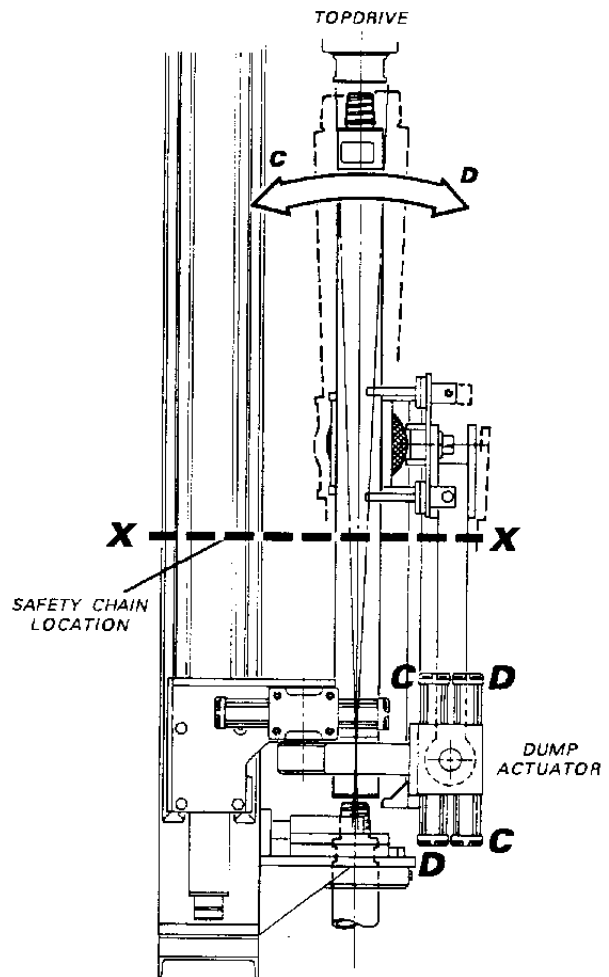

FIGURE 3.
5. To adjust the DUMP actuator remove hydraulic lines and fittings to expose stroke adjusters inside ports **C** and **D**. See figure 3.
WITH HYDRAULIC LINES REMOVED FROM DUMP ACTUATOR DRILL PIPE ARM MUST BE SUPPORTED OR A SAFETY CHAIN INSTALLED AS SHOWN X-X (FIGURE 3) OR INJURY MAY RESULT.